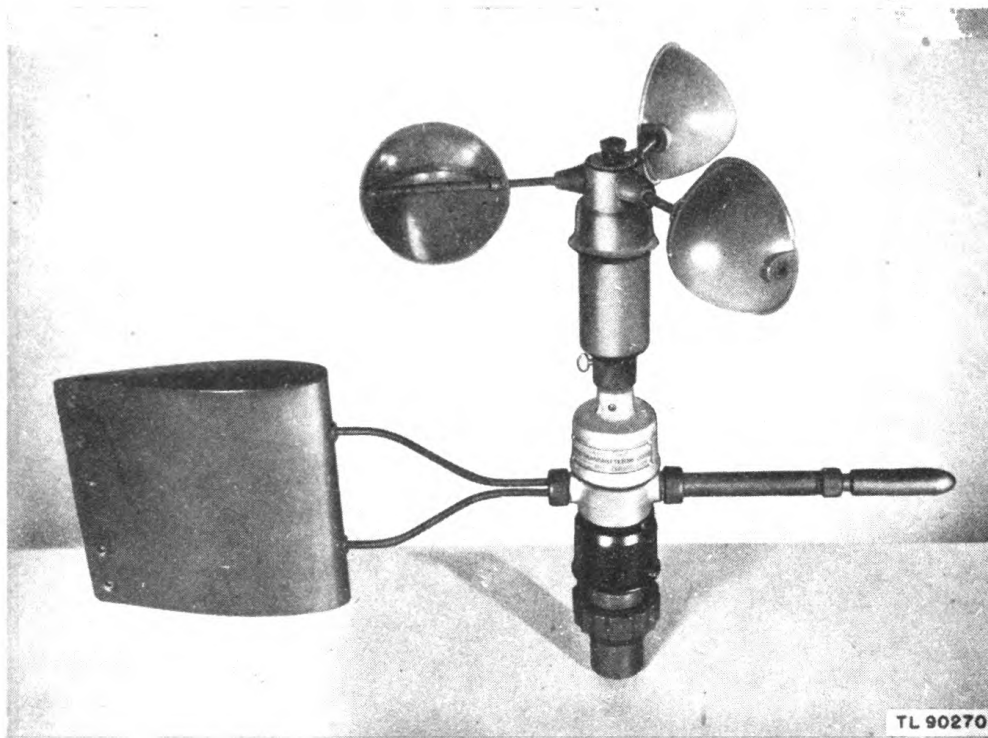
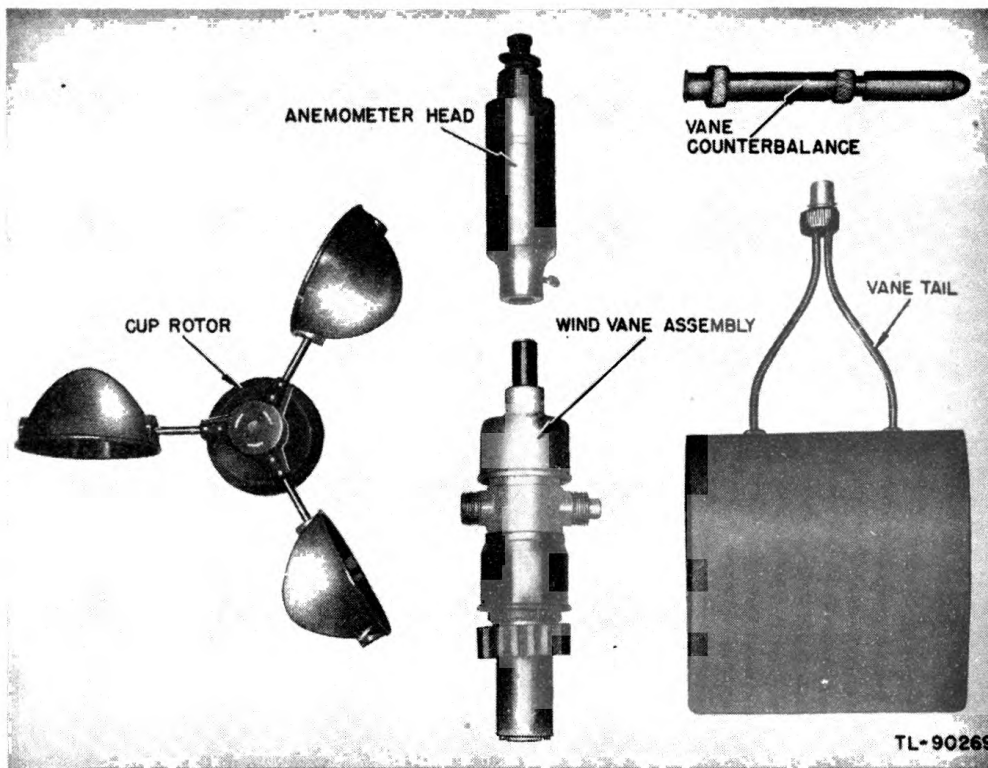

Figure 1. Wind Transmitter ML-203-A or ML-203-B, assembled.
Figure 2. Wind Transmitter ML-203-A or ML-203-B, disassembled.
- a.* Wind Transmitter ML-203-A (fig. 1), which consists of (fig. 2):
- a. Wind Transmitter ML-203-B (fig. 1), which consists of (fig. 2):
#### **4. WIND TRANSMITTERS ML-203-A and ML-203-B (figs. 1 and 2).**